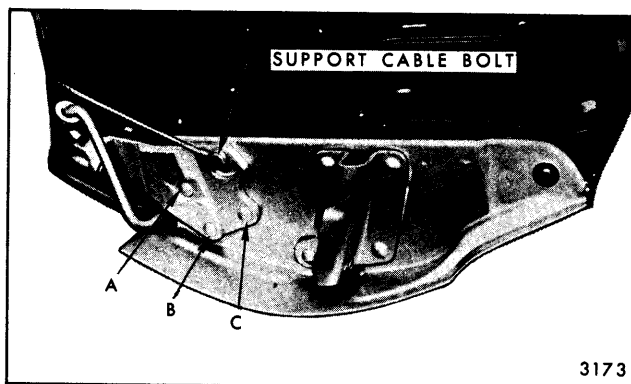
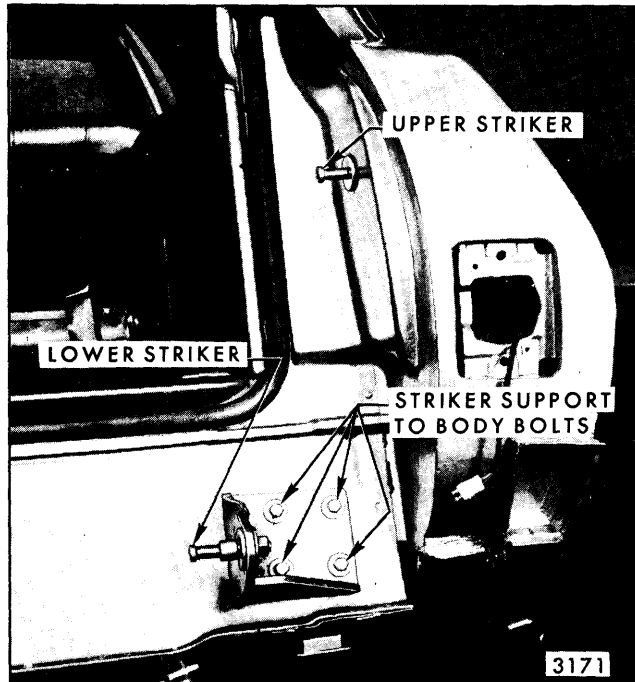

Fig. 9-11—Tail Gate Left Hinge Assembly - "B" Body Shown - "A" Body Typical
Fig. 9-13—Tail Gate Adjustments - "B" Body Shown - "A" Body Typical
NOTE: For purposes of illustration, Figure 9-11 shows tail gate open in the gate position.
- A. On "A" body styles, the support cable bolt is retained with a nut. On "B" body styles, this bolt fits into a tapping plate (Fig. 9-11).
- B. On "A" body styles, bolt A, Figure 9-11, fits into a tapping plate. Bolts B & C, Figure 9-11, are pressed into the hinge assembly and retained to the tail gate by nuts. The pressed bolts are removed with the hinge assembly - not separately.
- C. On "B" body styles, bolts A" B & C, Figure 9-11, are pressed into the hinge assembly and retained to the tail gate by nuts. The pressed bolts are removed with the hinge - not separately.
The left hinge to tail gate bolts are loaded into oversized holes that allow up or down and fore or aft adjustment (Fig. 9-11). The right striker support to body bolts are loaded into floating tapping plates that provide side to side and up or down adjustment. The lower striker is adjustable fore or aft and the upper striker fore or aft and up or down (Fig. 9-13).